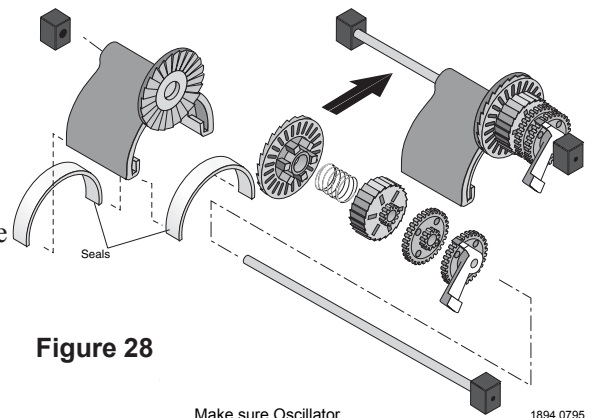

Figure 28
2. Install the oscillator on the long gear shaft. Install the ratchet gear on the shaft so that the teeth engage the ratchet on the oscillator. Install the spring, ratchet drum, pinion gear (large gear first), and cam (gear end first) on the shaft (See Figure 28). Hold the gears on the shaft while installing them, and compress the clutch spring to allow assembly to slip into place between the posts (See Figure 28).